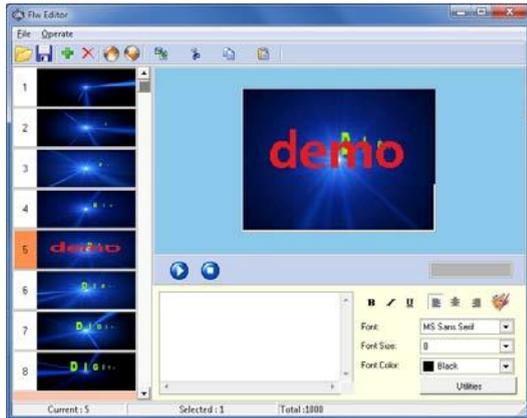

Fig. 5.41 The converting finishes
Step 4: Click button “Convert” and the converting will start. In Fig.5.41, the indication window appears when the converting finishes.